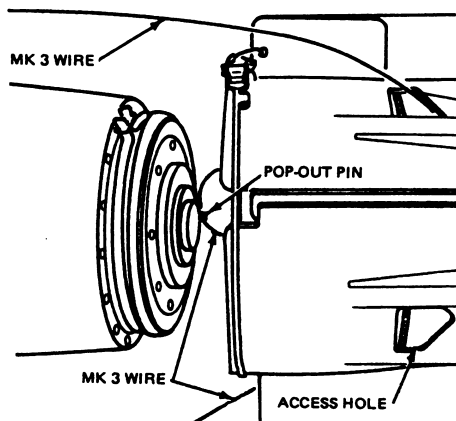

Figure 12-41.—Mk 3 arming wire routed through fin and pop-out pin.
11. Thread the arming wire through the pop-out pin of the tail fuze. (See figure 12-41.) Then pass the arming wire through the small hole at the bottom of the fin support.